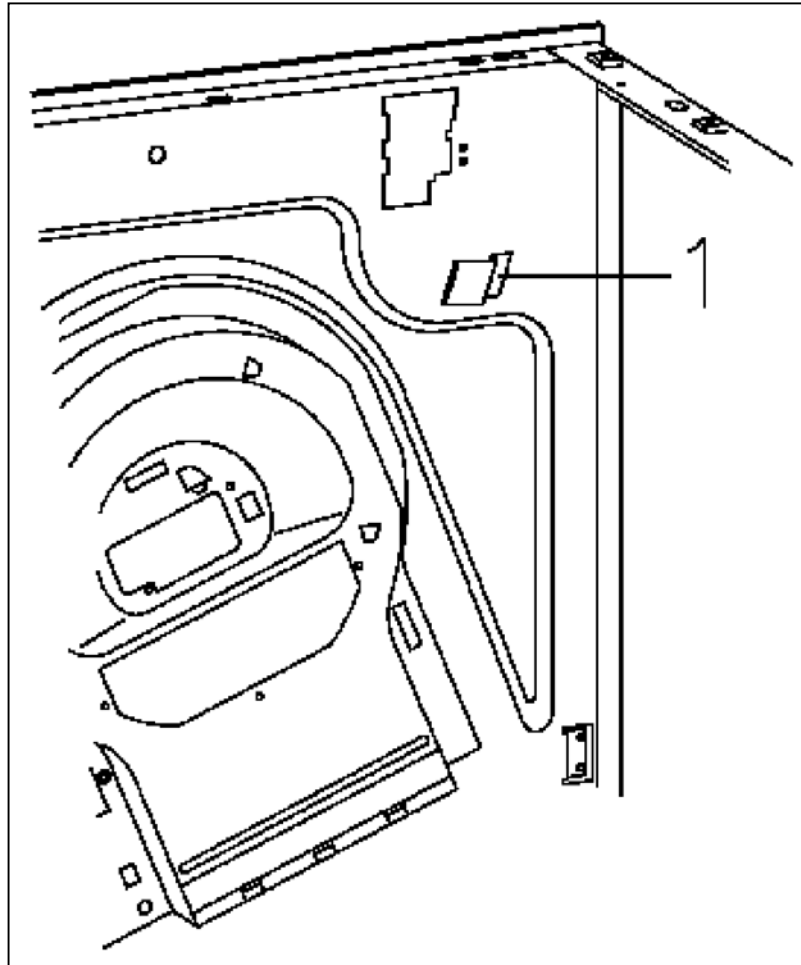

Figure 030-5: Wiring harness holder
4. Refer to Figure 030-5.
5. Release the wiring harness from its holder (1).
6. Remove the rubber grommet (3), with the wiring harness.
To prevent damage to the wiring, ensure the harness is secured in its holder (Figure 030-5).